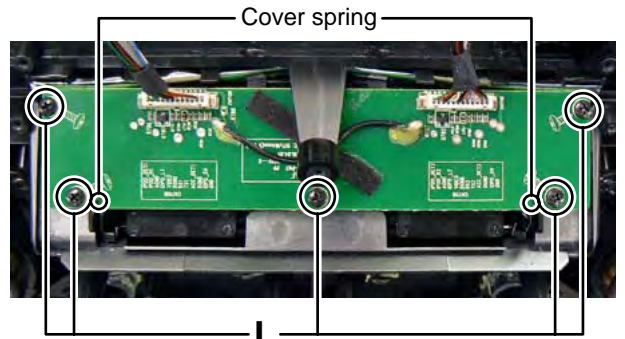

Fig.12
- (4) Remove the five screws **L** attaching the iPod board. (See Fig.12)
- (5) Turn over the iPod board and then remove the cover spring.